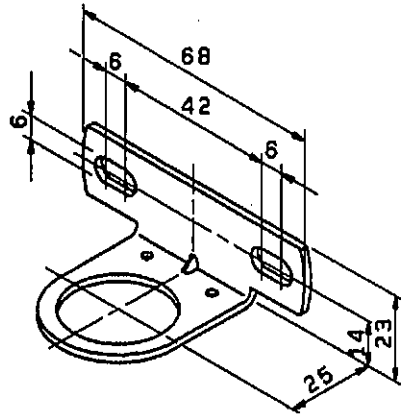

Fig. 1
- 1) Fig. 1 shows installation dimensions when an optional bracket "B" is used.